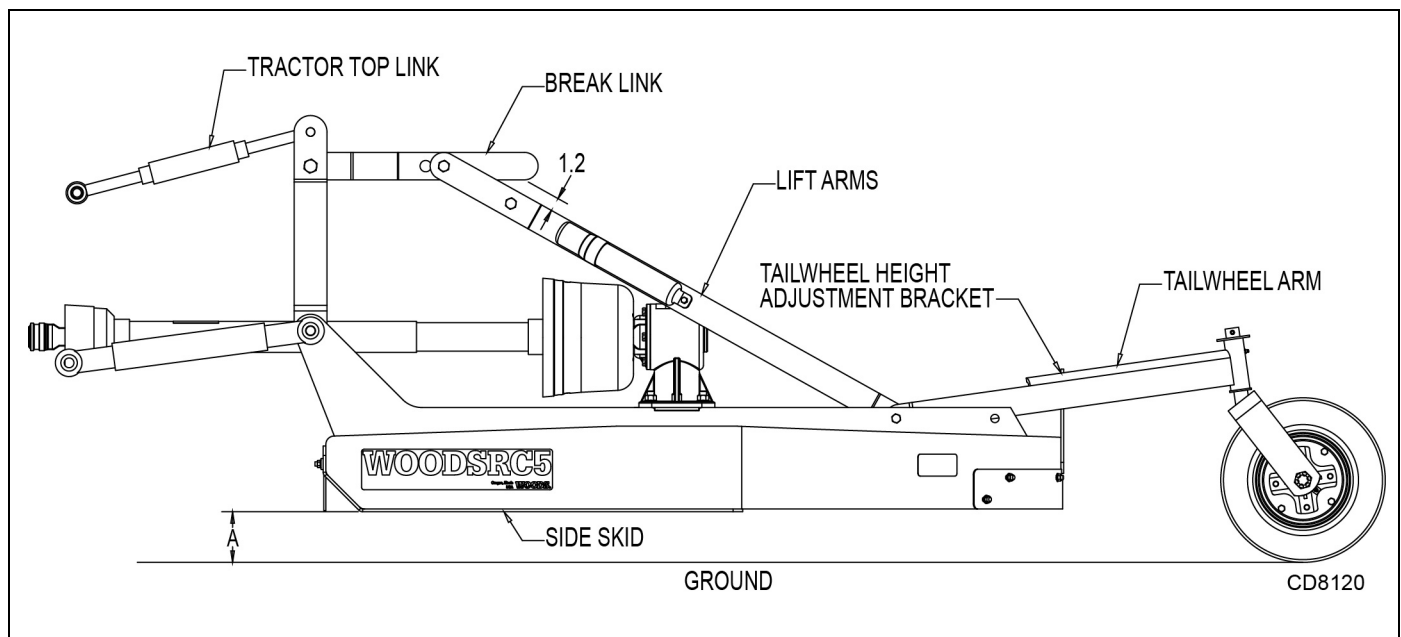

Figure 8. Cutting Height Adjustment
6. Adjust top link to provide 1.2" of clearance between break link and rear lift arms. See Figure 8. The clearance will allow cutter to float over uneven terrain.